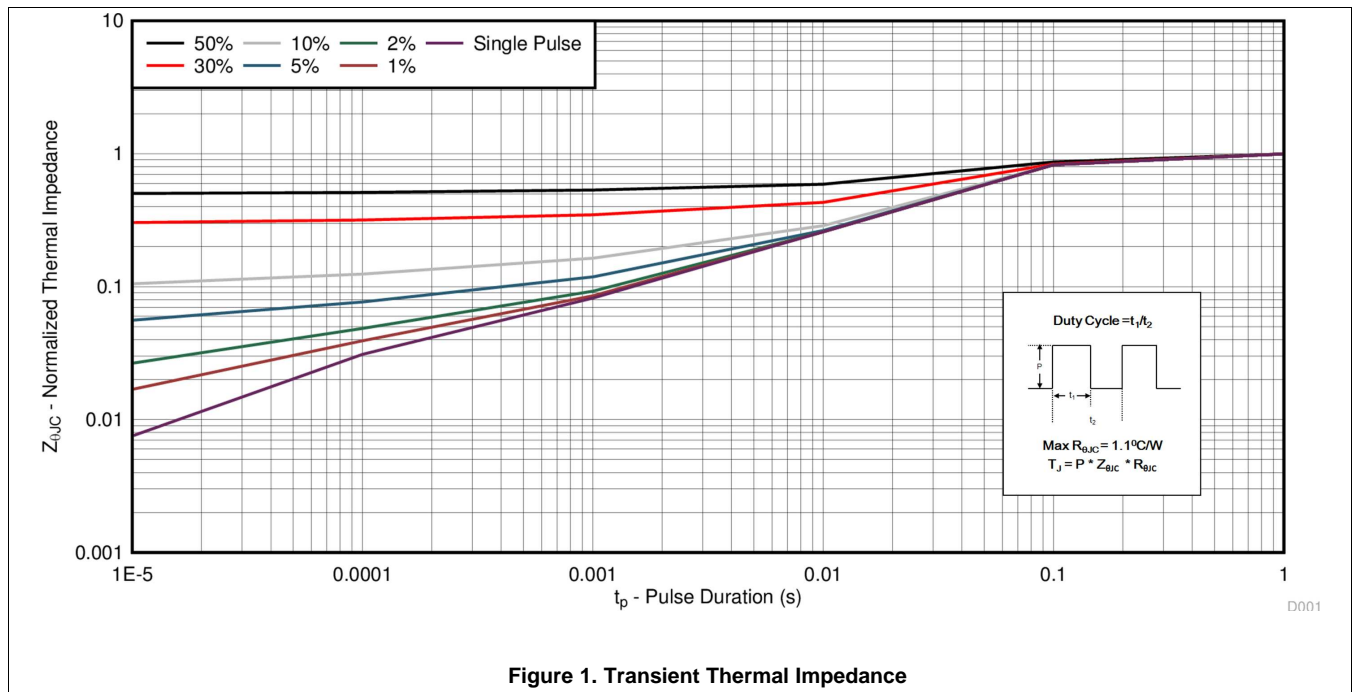

Figure 1. Transient Thermal Impedance
• Changed <a href="#">Figure 1</a> text From: $R_{\theta JA} = 92^\circ\text{C/W}$ To: Typical $R_{\theta JA} = 93^\circ\text{C/W}$ .....	4